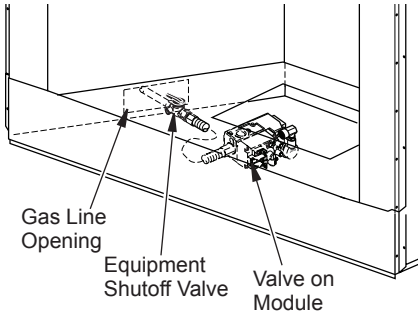

Figure 25 - Installing Gas Line
Install incoming 1/2" gas line (as permitted by local codes) through the gas line opening on left or right side of the fireplace chassis (Figure 25). The pipe should extend to around the middle of the fireplace in order to be long enough to connect to the flexible gas line with shut off valve that is supplied with the log/burner module. Prepare incoming gas line with teflon tape or pipe joint compound.
1. Route flexible gas line supplied with log/burner module through the large hole on the firebox bottom to the incoming gas line (Figure 25, page 18).